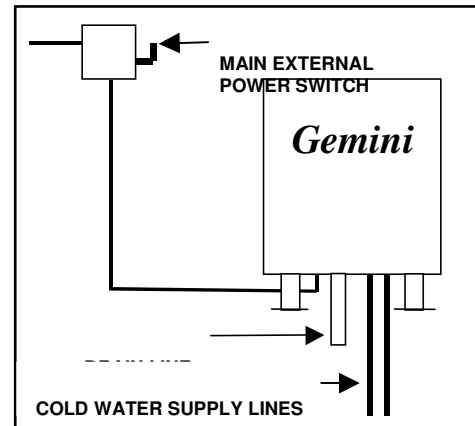

Figure 3-1 Main External Power Switch
4. Refer to the main external power switch in Figure 3-1, and turn on electric power to the steamer. The steam generators will immediately start blowdown cycles. The blowdown cycle lasts 3 minutes.
For safe, efficient operation of the steamer, the operator must, at a minimum, comply with all cautions, warnings and instructions in the detailed operating procedures and be familiar with the control panel shown in Figure 3-1. The operator must be familiar with all the operating features explained in this manual before attempting to operate the steamer.